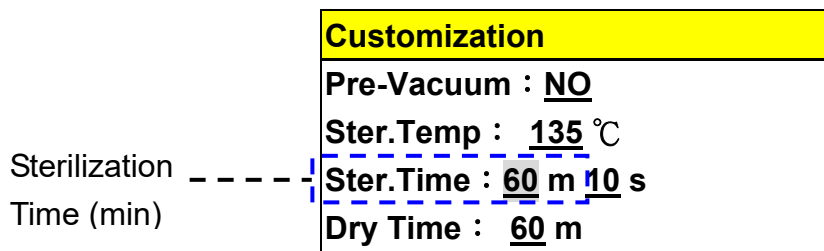

Figure 89
- Press  button to store sterilization time parameter as shown in Figure 89.